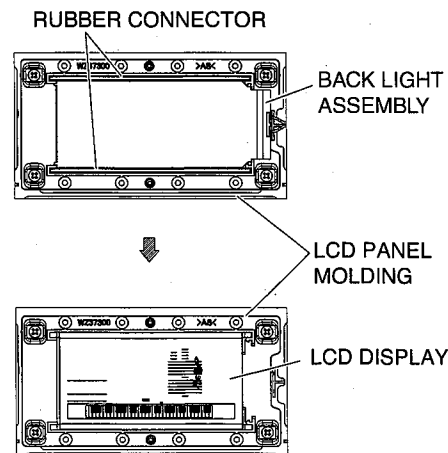

Fig. 4
- 4-4. Remove the back light assembly, LCD display and rubber connectors from the LCD panel molding. (Fig.4)